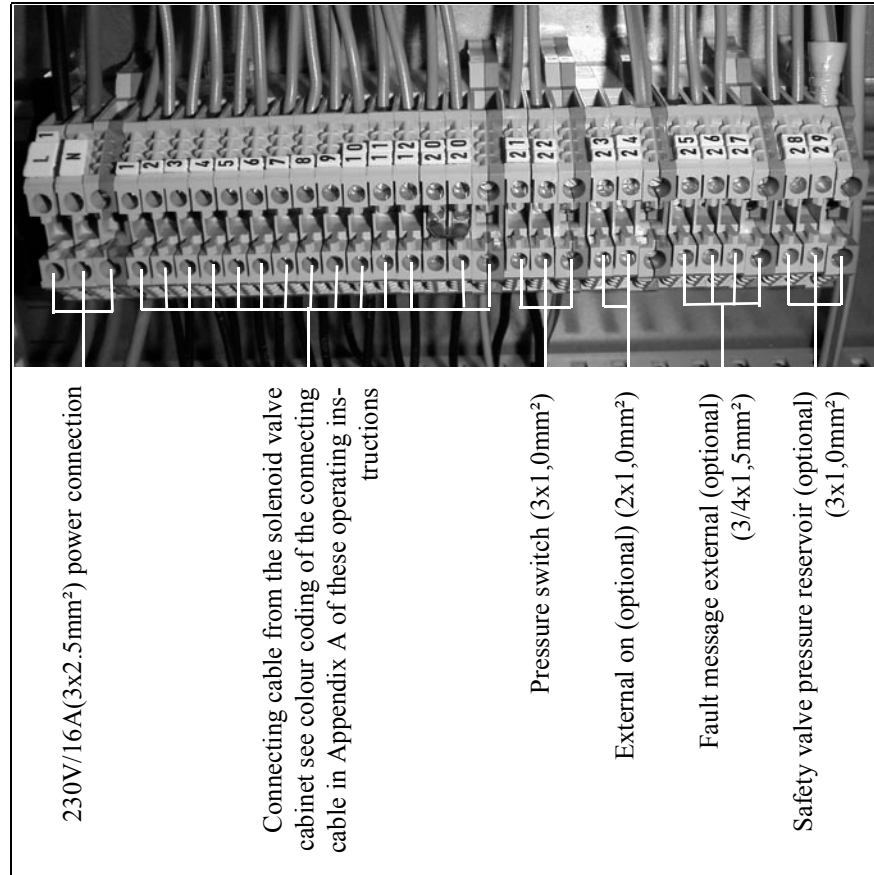

Figure 4: Connection diagram
2. Make the connections as shown in the figure 4. Please also observe the circuit diagram supplied.